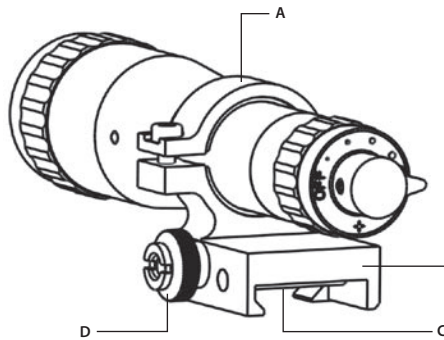

FIGURE 3-12. IR-850 ILLUMINATOR
IR850 (Figure 3-12) is delivered ready-assembled with a dedicated mount, to be installed on the top Weaver rail of the AIM or optional FSRS system. The mount clamp (A) has a spherical hinge that allows the IR850 to tilt.